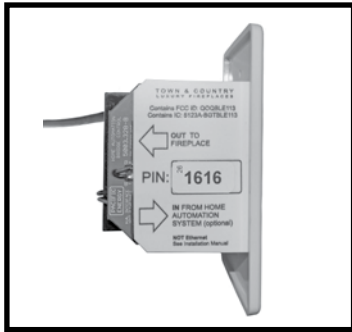

Figure 3: Wall switch interface side.
3. Wall mounted Remote Control Receiver (Figure 3).